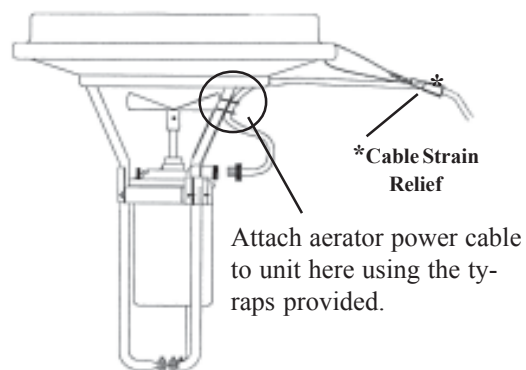

Figure 2
C. **Install the cable strain relief device.** Pass the wire hoop through one of the holes in the float and around the aerator power cable. Re-attach the cable strain relief --see Figure 2.
D. **Attach your aerator power cable to one of the support arms with the ty-raps provided.** In corrosive, brackish, and salt water applications use two ty-raps to attach your power cable to the support arm--see Figure 2.